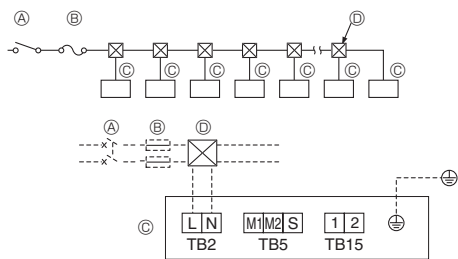

Fig. 4-4
4.2. Power supply wiring (Fig. 4-4)